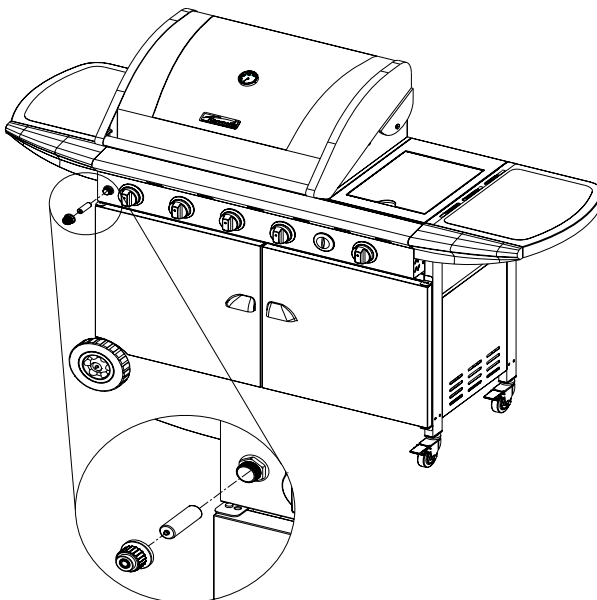

Figure 17
3.Replace the ignition battery cap after the battery has been installed. (Fig 17)